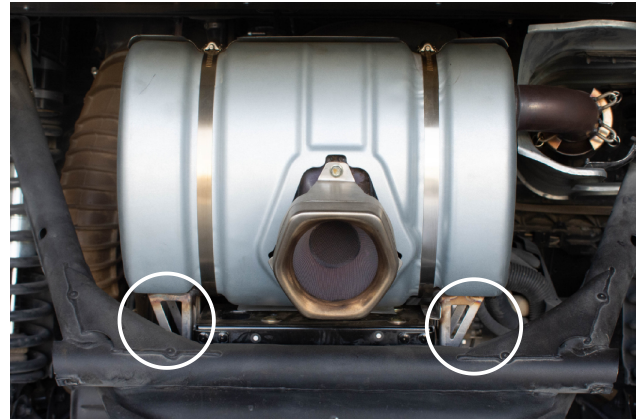

Fig. 2
**Step 3.** Remove the 4 mounting bolts (Fig. 2) from the OEM system using a 13mm socket and wrench. Carefully remove the stock muffler.